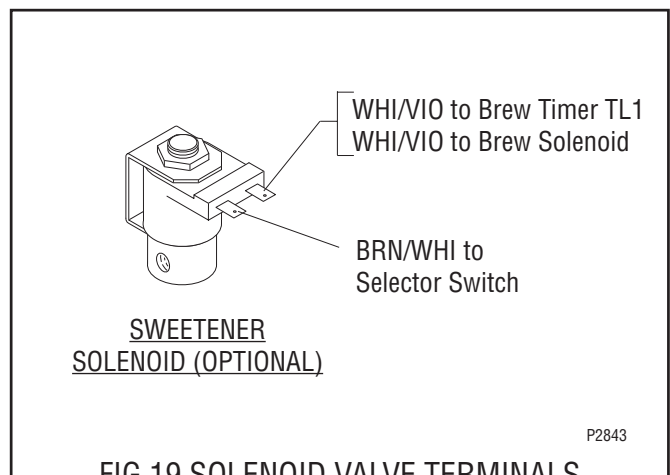

FIG. 19 SOLENOID VALVE TERMINALS
10. Refer to Fig. 19 when reconnecting the wires.